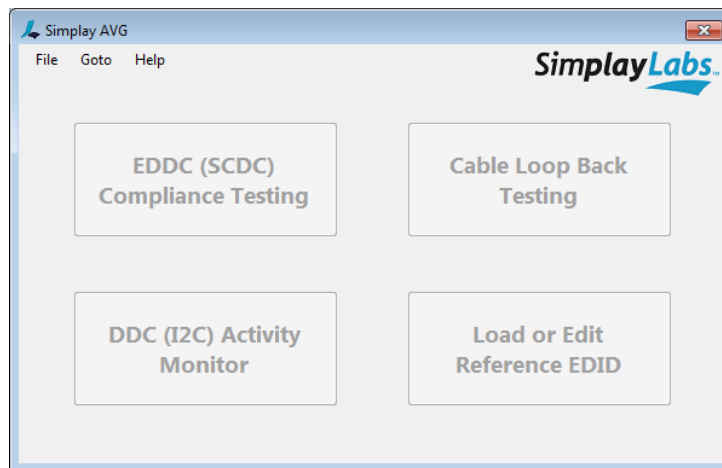
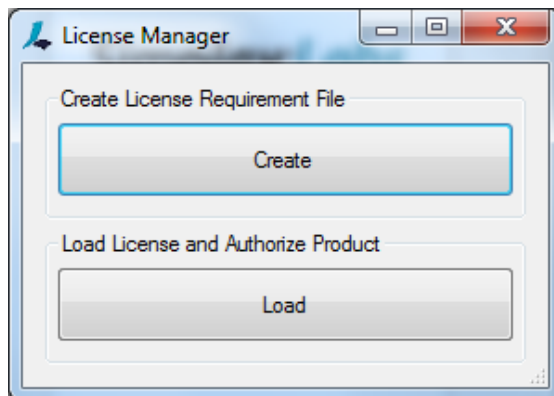

Figure 3.8. AVG Software Main Window on Test Computer
Figure 3.11. License Manager Dialog
1. Make sure the SL-881 is powered on and is connected to your test computer. Open the SL-881 Application shortcut from your test computer desktop (Figure 3.7). You get the main window of the AVG software (Figure 3.8).
6. From the AVG software main window (Figure 3.8), choose Help → License. The License Manager dialog appears (Figure 3.11).
3. Go back to the AVG software main window (Figure 3.8). Select File → Open Device → Connect Device.
8. The License Manager dialog appears (Figure 3.11). Click Load to load the license file (\*.lic).